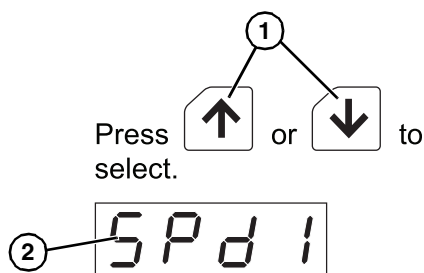

Figure 39
2. Press up or down (Figure 39, item 1) to change motor speed and set operation data to write the current speed to (e.g., SPd1) (Figure 39, item 2).